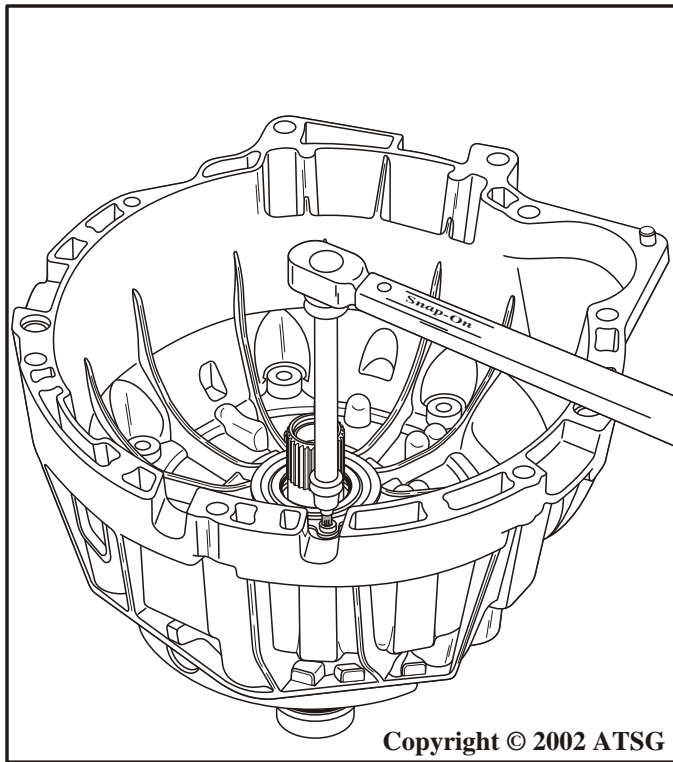

Figure 72
37. Install the two seal retaining bolts and torque to 3.6 Nm (31 in.lb.), as shown in Figure 72.